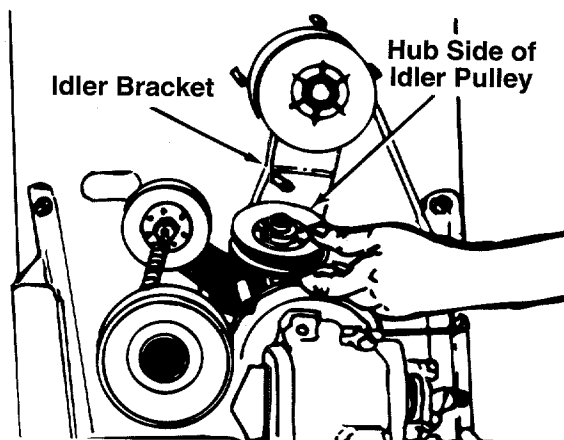

FIGURE 36.
10. Upon reassembly of idler pulley, be certain the hub side of idler goes against the idler bracket. See figure 36.